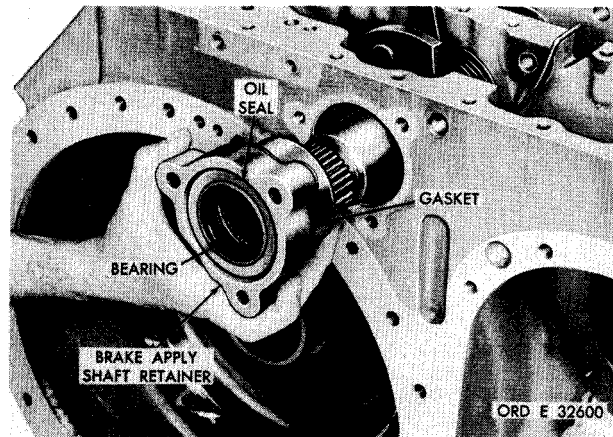

Figure 181. Removing brake apply shaft retainer and gasket
aa. Remove brake apply shaft retainer and gasket (fig. 181).
ab. Do not remove oil seal or bearing from shaft retainer, unless replacement is necessary (fig. 181). If necessary, drive the seal and bearing from the retainer.
x. Install brake apply shaft retainer and gasket (fig. 181).